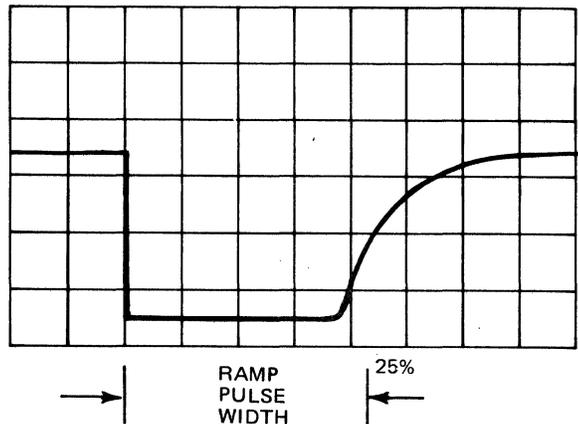

Figure 5-2. Forward Ramp Waveform
- b. Initiate a forward-stop tape sequence by using the maintenance switch SW1. Observe the oscilloscope display (see figure 5-2).